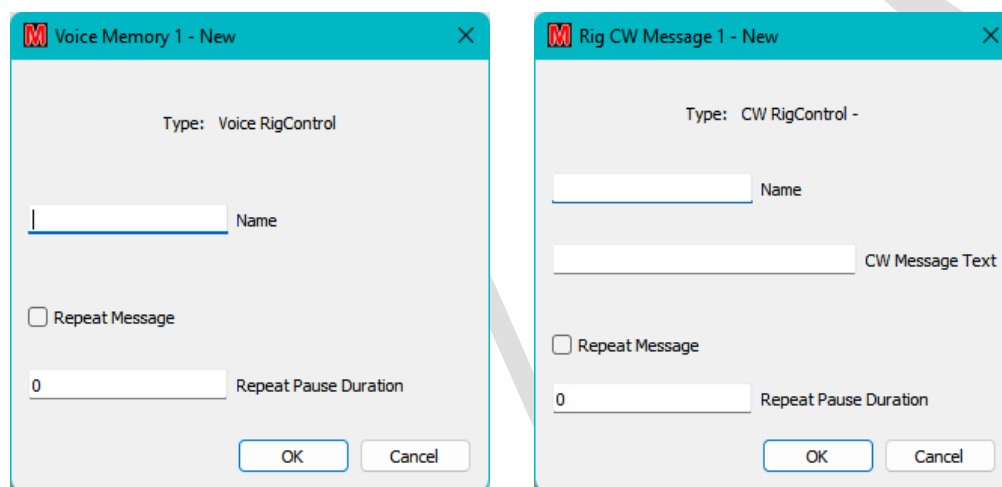

Figure 146 – Setup for RigControl connection buttons
- **New:** Create a new user command (see Figure 146).